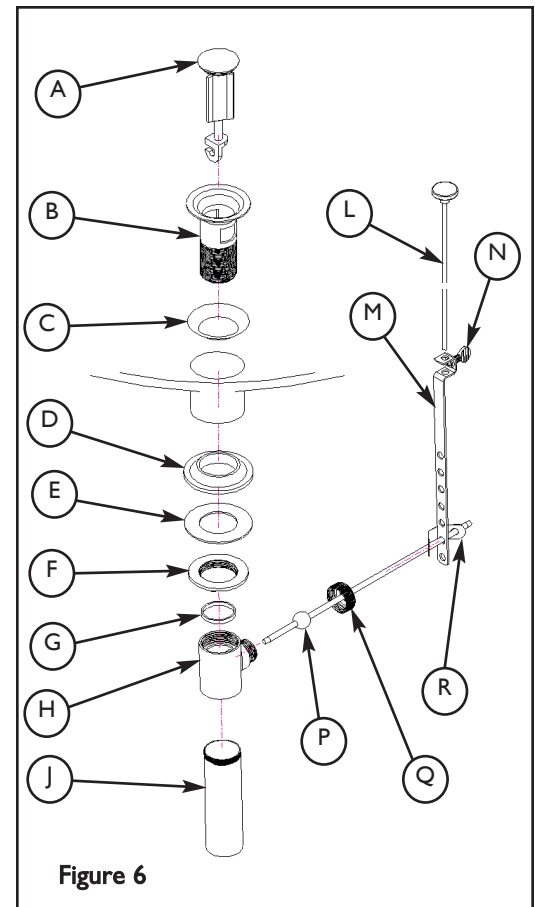

Figure 6
- Slide on clear flat WASHER (E) and secure with flange NUT (F).
- Place clear WASHER (G) into drain BODY (H) and tighten to FLANGE (B).
- Apply thread sealant to TAILPIECE (J) and attach to drain BODY (H).
- Attach TAILPIECE (J) to p-trap drain (not included).
- Place drain PLUG (A) into FLANGE (B).
- Insert pop-up ROD (L) through rod opening and secure to STRAP (M), approximately 1" from end of ROD (L), with SCREW (N).
- Insert ball ROD (P) into the drain's rod opening, secure with ball rod NUT (Q).
- Adjust the rise of the plunger and CLIP (R) into place.
- Adjust ball ROD (P) and pop-up ROD (L) so drain will open and close properly. See Figure 6.
- Connect TAILPIECE (J) to waste p-trap (not included).